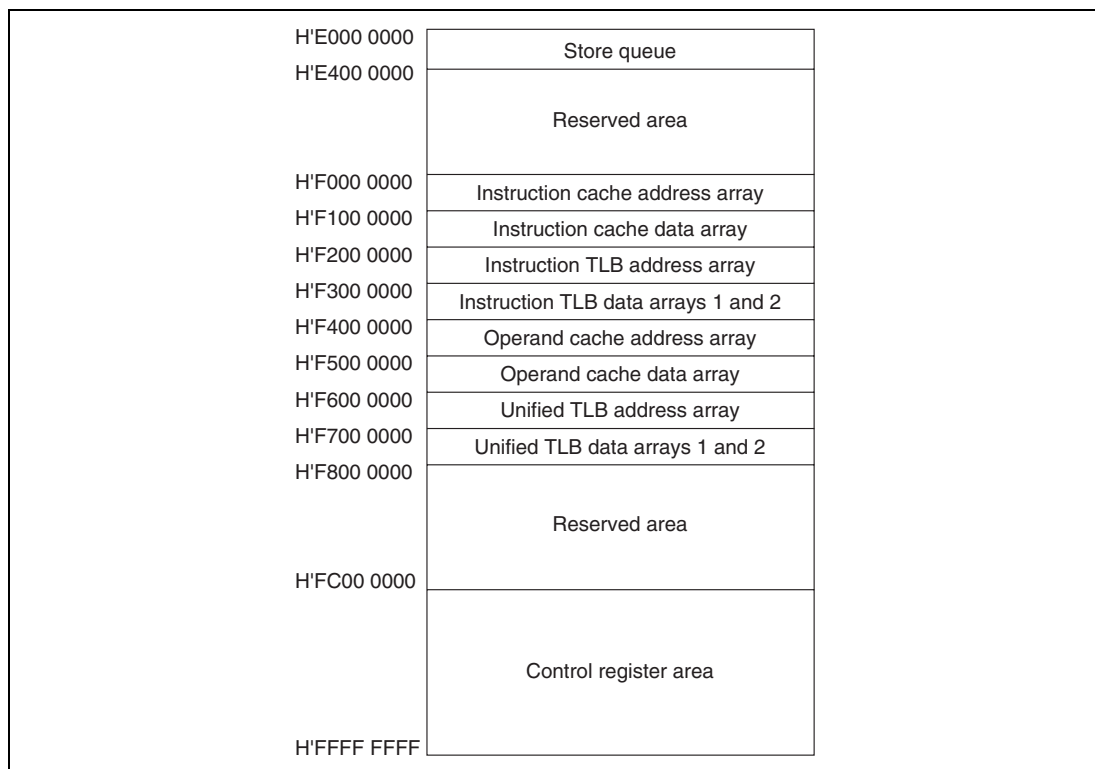

**Figure 3.4 P4 Area**
**P4 Area:** The P4 area is mapped onto SH-4 on-chip I/O channels. This area cannot be accessed using the cache. The P4 area is shown in detail in figure 3.4.